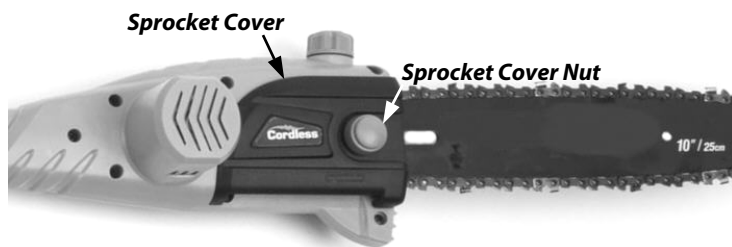

Figure 4
8. Install the Sprocket Cover Nut by hand and leave the Bar free to move for tension adjustment (**Figure 4**).
10. Tighten the Sprocket Cover Nut (**Figure 4**).